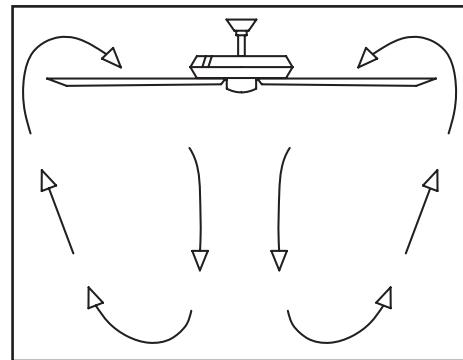

Figure 20
**Warm weather** - (Forward) A downward air flow creates a cooling effect as shown in Figure 20. This allows you to set your air conditioner on a higher setting without affecting your comfort.